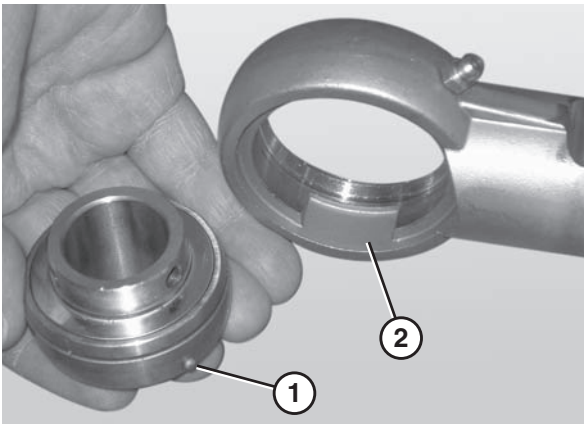

Figure 94
5. Remove the worn or damaged bearing (**Figure 94**).
*When inserting the new bearing, make sure the anti-rotation notch (**Figure 94, item 1**) on the bearing lines up with the groove inside the housing (**Figure 94, item 2**).*